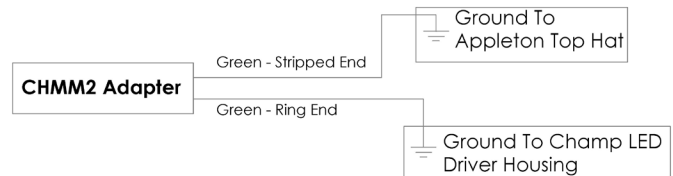

Figure 3
5. Secure one of the CHMM2 adapter ground leads to the Champ Series luminaire ground lead using Listed wire connectors or wire nuts. See Figure. 3
7. Ensure that the Appleton top hat is connected to earth ground. Connect the remaining free end of the CHMM2 Adapter ground lead to the Appleton top hat as shown in Figure 3. Ensure that the CHMM2 ground lead is securely fastened to the appropriate ground leads or lugs supplied with the Crouse-Hinds luminaire and Appleton top hat.